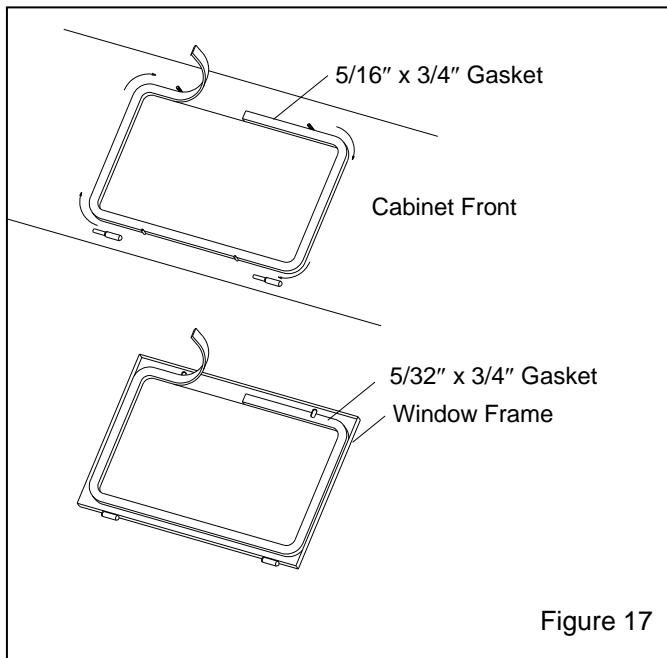

Figure 17
7.4 Window Gasket Replacement, Figure 17
7.4.4 Peel a short section of adhesive backing from the 5/16" thick strip gasket, and adhere the gasket to the center of the top edge of the window opening as shown in Figure 17. Peel additional backing as needed, and work the strip around the radius of each corner, pressing it tightly to bond. Trim the gasket to fit and compress the ends to seal.